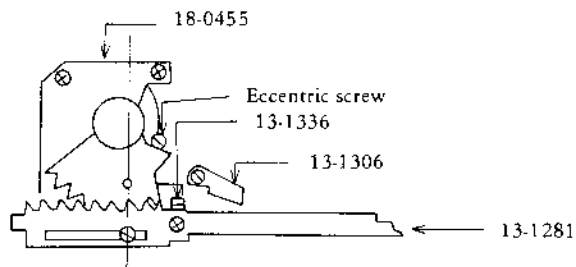

Fig. 25
Mount the Meter Set Cam (13-1281) properly referring to Fig. 25. (ASA100, 1/1000sec)
- 2) The Mark should be visible in the View Finder when the Shutter speed is between 1/2 sec and B at ASA 100 and not visible from 1/4 to 1/1000 sec. Make adjustment through Nut (13-1336) and Warning Lever (13-1306). See Fig. 25.